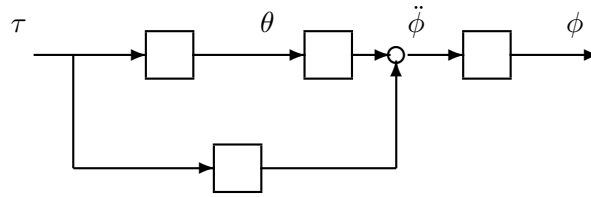

Figure 2: Block diagram for the linearized segway dynamics.
- f. Determine the transfer functions in the empty boxes in Figure 2.